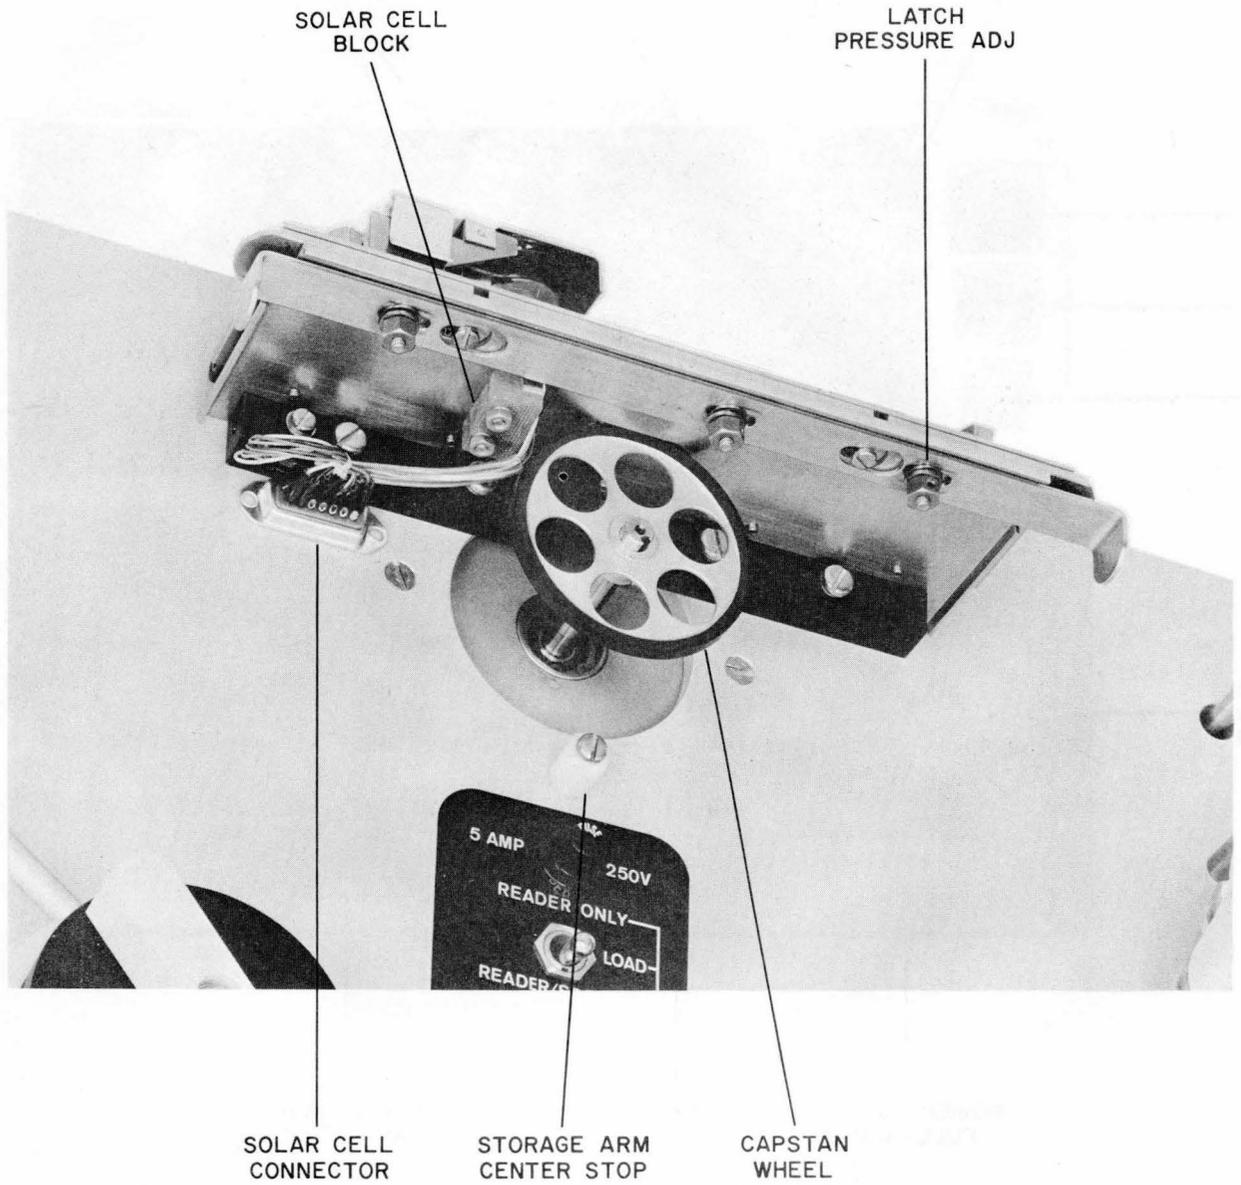
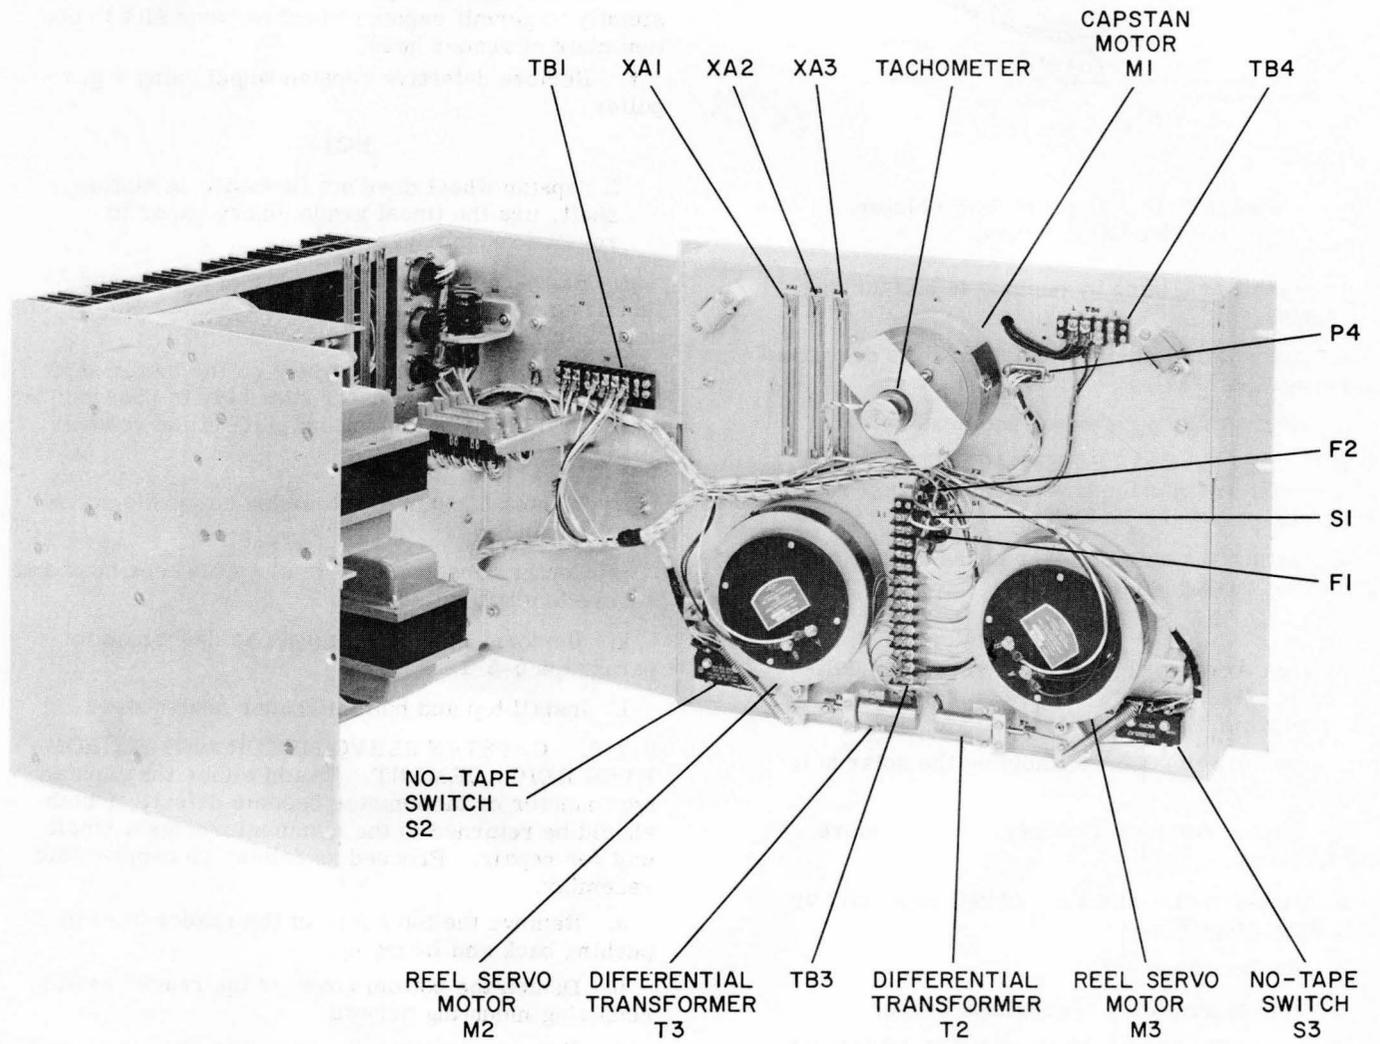
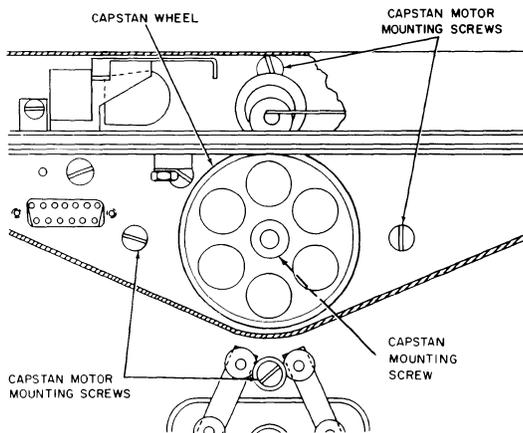

Figure 5-12. Reader Head, Bottom View
Figure 5-14. Front Panel, Rear View
Figure 5-15. Capstan Servo Motor, Mounting Screws
5-5-4. **NO-TAPE SWITCH ADJUSTMENT (POWER OFF).** Each no tape switch should be adjusted so that it will trip when its associated storage arm is  $3/16 \pm 1/16$  inch from its center stop. (Figure 5-12). The switch is adjusted by forming its actuator arm. (Figure 5-14). This adjustment should be checked when moving the arm from its center position towards its stop.
5-7-2. SOLAR CELLS REPLACEMENT. The solar cells are replaced as a complete unit as follows: (Figure 5-12.)
5-7-3. REEL SERVO MOTOR REPLACEMENT. Both reel servo motors (left and right) are replaced in an identical manner as follows: (Figure 5-14).
5-7-4. CAPSTAN WHEEL REPLACEMENT. (Figure 5-15.) To remove the capstan wheel, the capstan servo motor assembly must be loosened and raised in order for the capstan wheel to clear slot in
- d. While holding the capstan servo motor assembly (figure 5-14), loosen screws attaching it to front panel (figure 5-15).